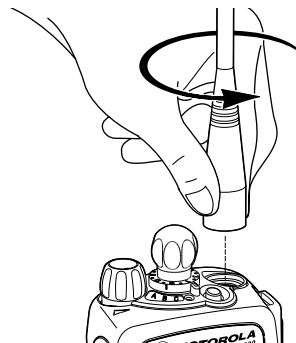

Figure 16. Removing the Antenna
3. Remove the antenna (see Figure 16 on page 37).